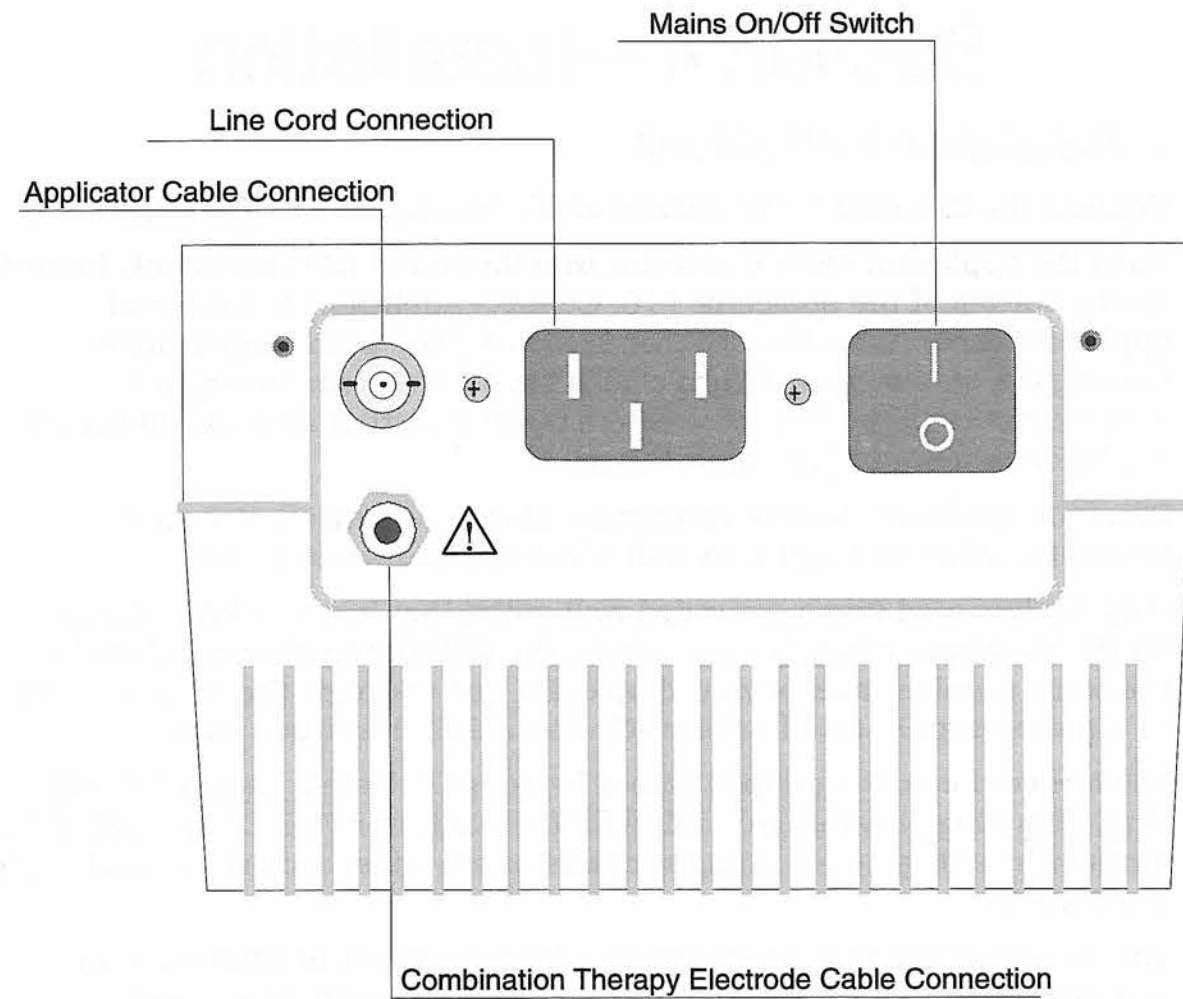

Figure 4.1—Sonicator 716, Bottom view—Main Power Switch and Line cord, Applicator Cable and Combination Therapy Electrode Cable Connections
1. Connect the line cord to the bottom of the Sonicator 716. (See Figure 4.1)